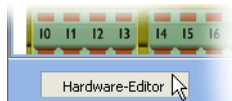

Figure 6-7 Opening the hardware editor with the auto-hide function enabled
1. Show the hardware editor (“View” menu, “Hardware Editor” command) and the toolbox (“View” menu, “Toolbox” command). If the auto-hide function is enabled, position the cursor over the minimized window as shown in Figure 6-7 for the hardware editor.
1. Show the toolbox ("View, Toolbox" menu). If the auto-hide function is enabled, position the cursor over the minimized window as shown in Figure 6-7 for the hardware editor.